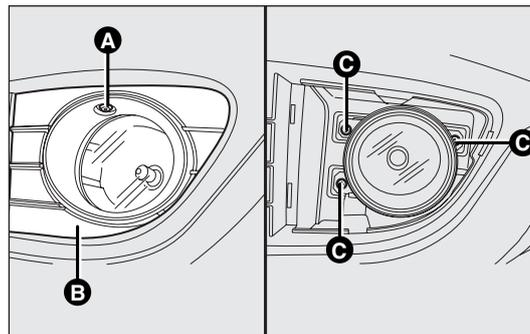

fig. 167
- loosen the screw A-fig.167 and remove the protection template B;